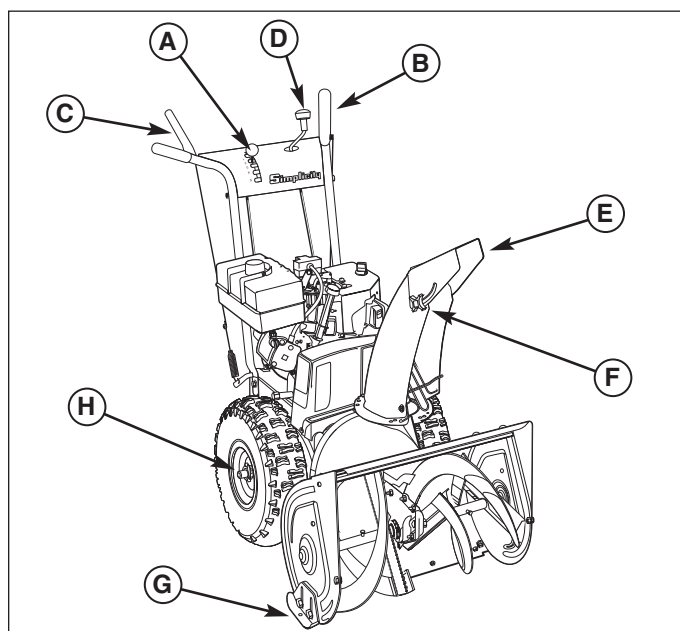

Figure 5. Snowthrower Controls
- E. Chute Deflector** - Controls the distance snow is thrown. Tilting the Chute Deflector (E, Figure 5) UP provides a higher stream and greater distance, while tilting the deflector DOWN provides a lower stream and less distance.
- G. Scraper Bar Height Control** - The Skid Shoes (G, Figure 5) control the height the scraper bar (located at the bottom of the auger housing). The scraper bar allows smooth surfaces (such as concrete or asphalt driveways) to be scraped clean of snow. On surfaces such as gravel, the scraper bar should be adjusted higher — so that it will not pick up gravel or debris.
- H. Traction Lock Pins** - The traction drive to each wheel can be locked and unlocked with the Traction Lock Pins (H, Figure 5) to permit the unit to "free-wheel," allowing easier manual handling and transport of the snowthrower.